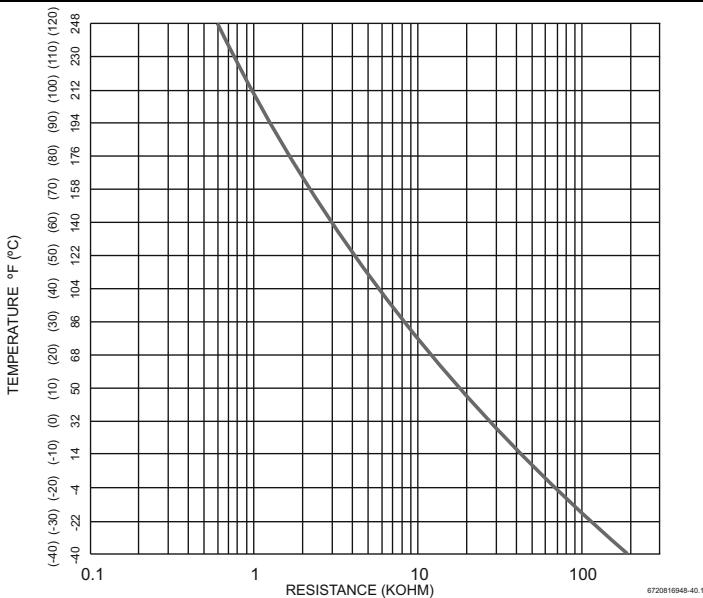

Fig. 63 Inlet, outlet and heat exchanger water temperature sensors characteristics
2) see temperature resistance charts in fig. 63 and 64.